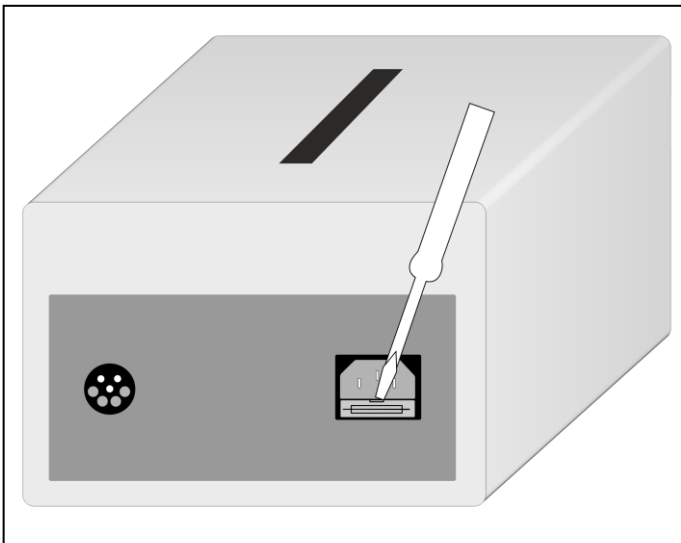
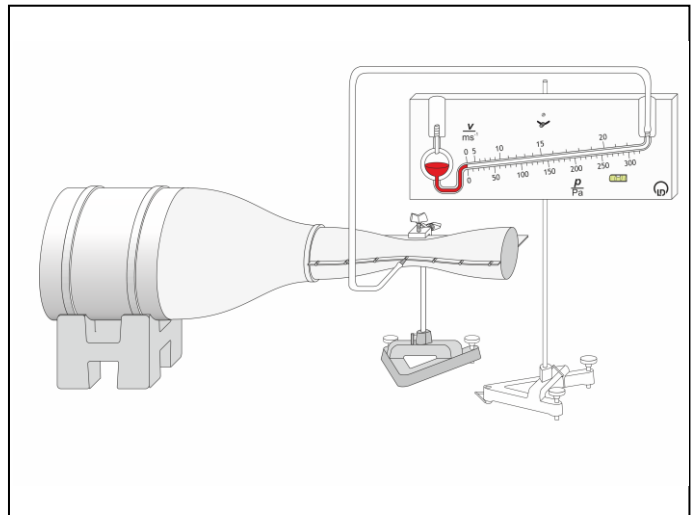

Fig. 2: Backside of the potentiometer ⑤.
Fig. 4: P1.8.5.1: Static pressure in a reduced cross section (use connector ring ④ for pressure side).
Depending on the experiment, either place the fan on the base horizontally as in Fig. 2 or vertically as in Fig. 4.
- Pull the power supply cable out of the potentiometer ⑤. The fuse cover is directly below the potentiometer's plug socket for the power supply cable (Fig. 2).